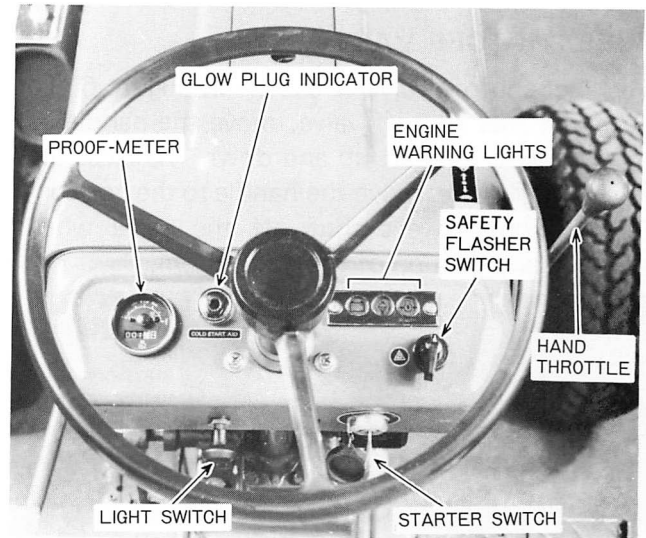

Figure 4 — Instrument Panel
The light switch, shown in Figure 4, is a push-pull type switch. Its positions are:
The starter switch is shown in Figure 4. Turning the key to the left will activate the cold-start aid. Turning the key to the right to the "on" position will activate the warning lights and instruments. Turning the key further right to the "start" position will start the engine. Upon release, the key will spring return to the "on" position.
The engine temperature, oil pressure and charge indicator warning lights are located as shown in Figure 4. When the starter switch is turned “on” the oil pressure and charge lights come on. After the engine has been started, the lights should go out within a few seconds. If they do not go out:
The Proof-Meter is located on the left side of the instrument panel, Figure 4. The Proof-Meter indicates:
- Engine revolutions per minute are indicated on a scale as shown in Figure 4. Use the engine revolutions per minute scale when operating PTO-driven equipment. PTO-driven equipment must be operated at an engine speed not to exceed, that indicated by the yellow line on the rpm scale (2568 rpm on mechanical-transmission tractors, 2575 with hydrostatic transmission). Additional information on P.T.O. operation can be found on page 16. Ground speeds are indicated on a decal attached to the instrument panel. The decal on mechanical transmission tractors shows ground speeds for 3rd, 5th, 7th, 10th and R¹ gears, with engine speeds from 1500 to rated rpm. Additional ground speed information can be found on page 50. The decal on hydrostatic transmission tractors shows ground speed for both ranges.
The hand throttle is shown in Figure 4. Push the throttle forward to increase engine rpm. Pull the throttle rearward to decrease engine rpm. Pull the throttle full rearward to stop the engine.